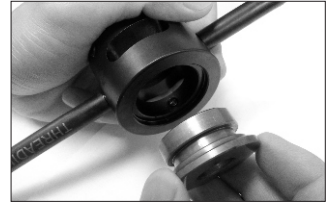

Fig.2-4
4. When change of guide bushing is needed, loosen the set screws to install a new one into the housing of the tool. (Fig.2-4)